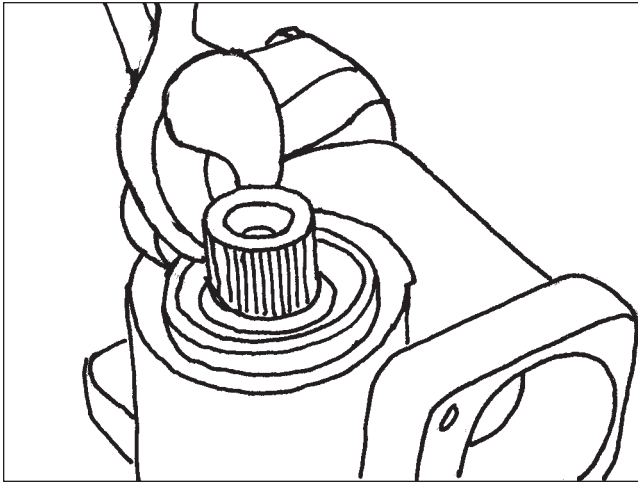

Figure 89
6. Remove the sector shaft cover using the appropriate tools for the steering gear you are working on. Either snap ring pliers or suitable size socket (**Figure 89**).